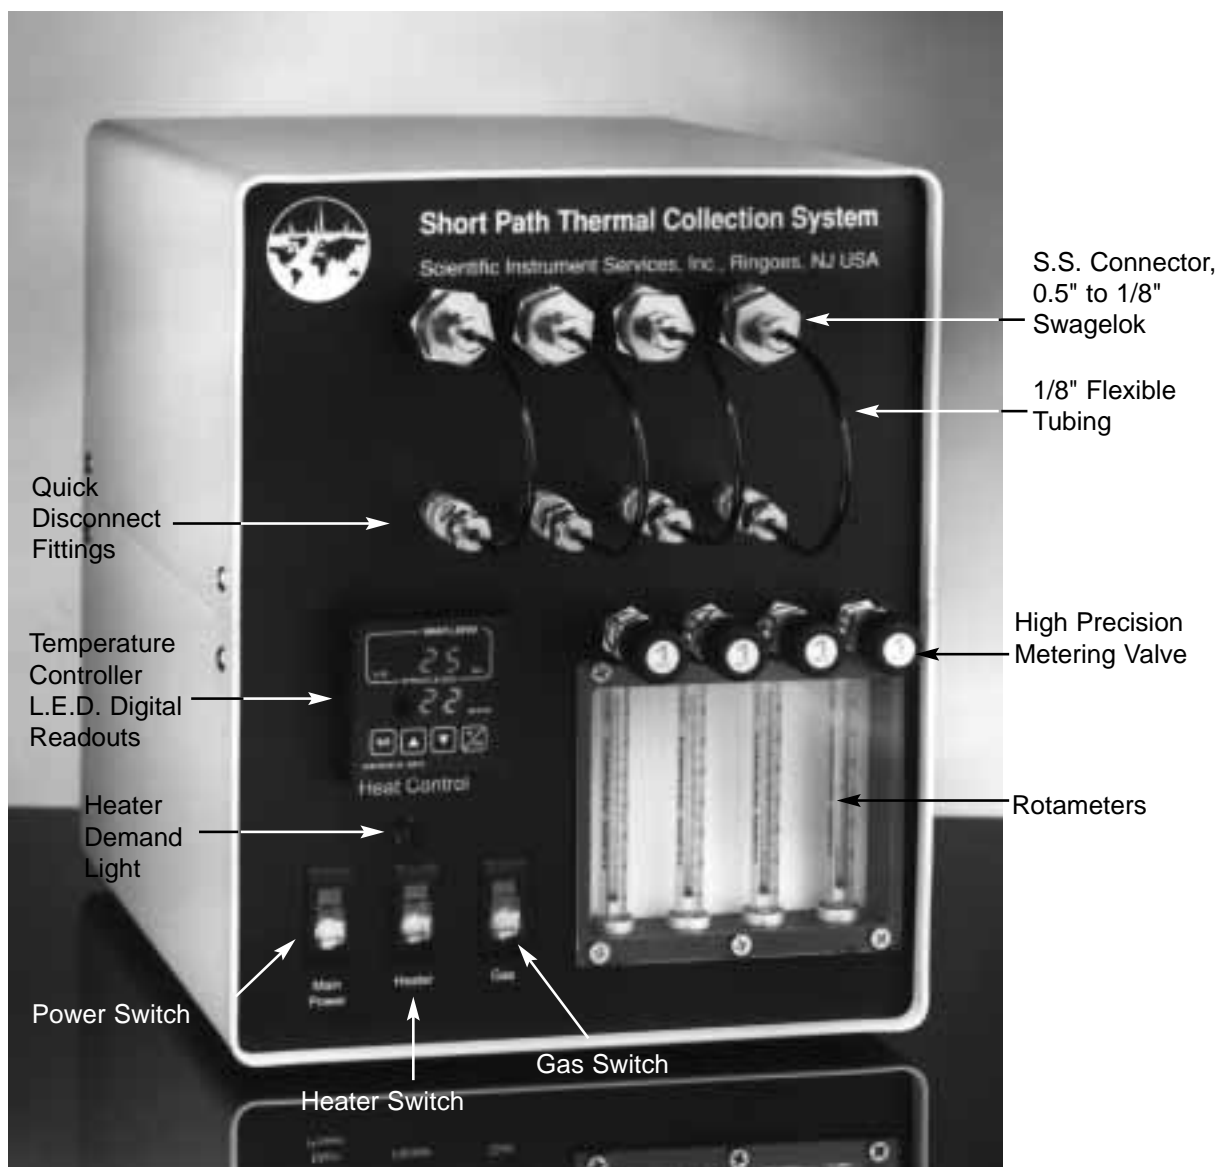

Figure 1 - Sample Collection Oven - Front View
The Sample Collection Oven (**Fig. 1**) permits the collection of volatiles and semi-volatile compounds present in solid materials into desorption tubes packed with an adsorbent resin for subsequent analysis by desorption utilizing the Short Path Thermal Desorption System. Volatile organics can be collected from sample sizes ranging from less than 0.5 grams up to 20.0 grams. The Sample Collection Oven consists of a sample tube oven with ports for four 0.5" or 0.25" diameter sample tubes. Up to four samples can be collected simultaneously with the system. A Watlow precision temperature controller provides accurate control of the temperature of the Sample Collection Oven up to 250° C. A digital readout indicates the actual oven temperature. The actual Sample Collection Oven consists of a large aluminum plate with holes drilled for the sample tubes and is heated by cartridge heaters. Heat transfer to the sample tubes occurs via direct thermal transfer from the aluminum block to the sample tubes. Temperatures can be maintained within 1% of the full scale reading. Four rotameters regulate the gas flow through each of the samples independently of one another.
A. Front Panel Description (Fig. 1)